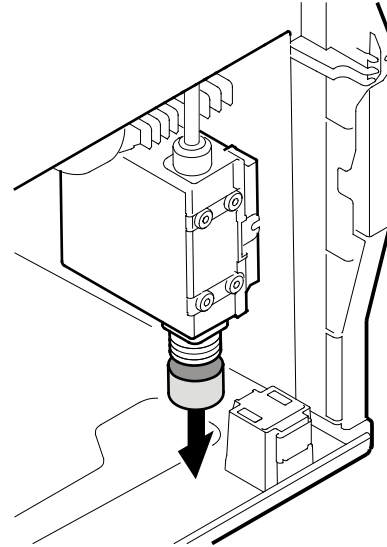

Figure 13
2. Remove the cover from the valve connector (**Figure 13**).